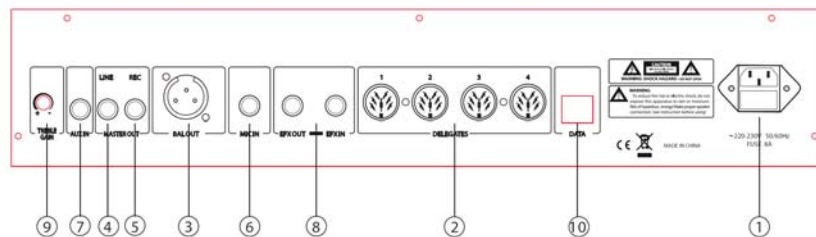
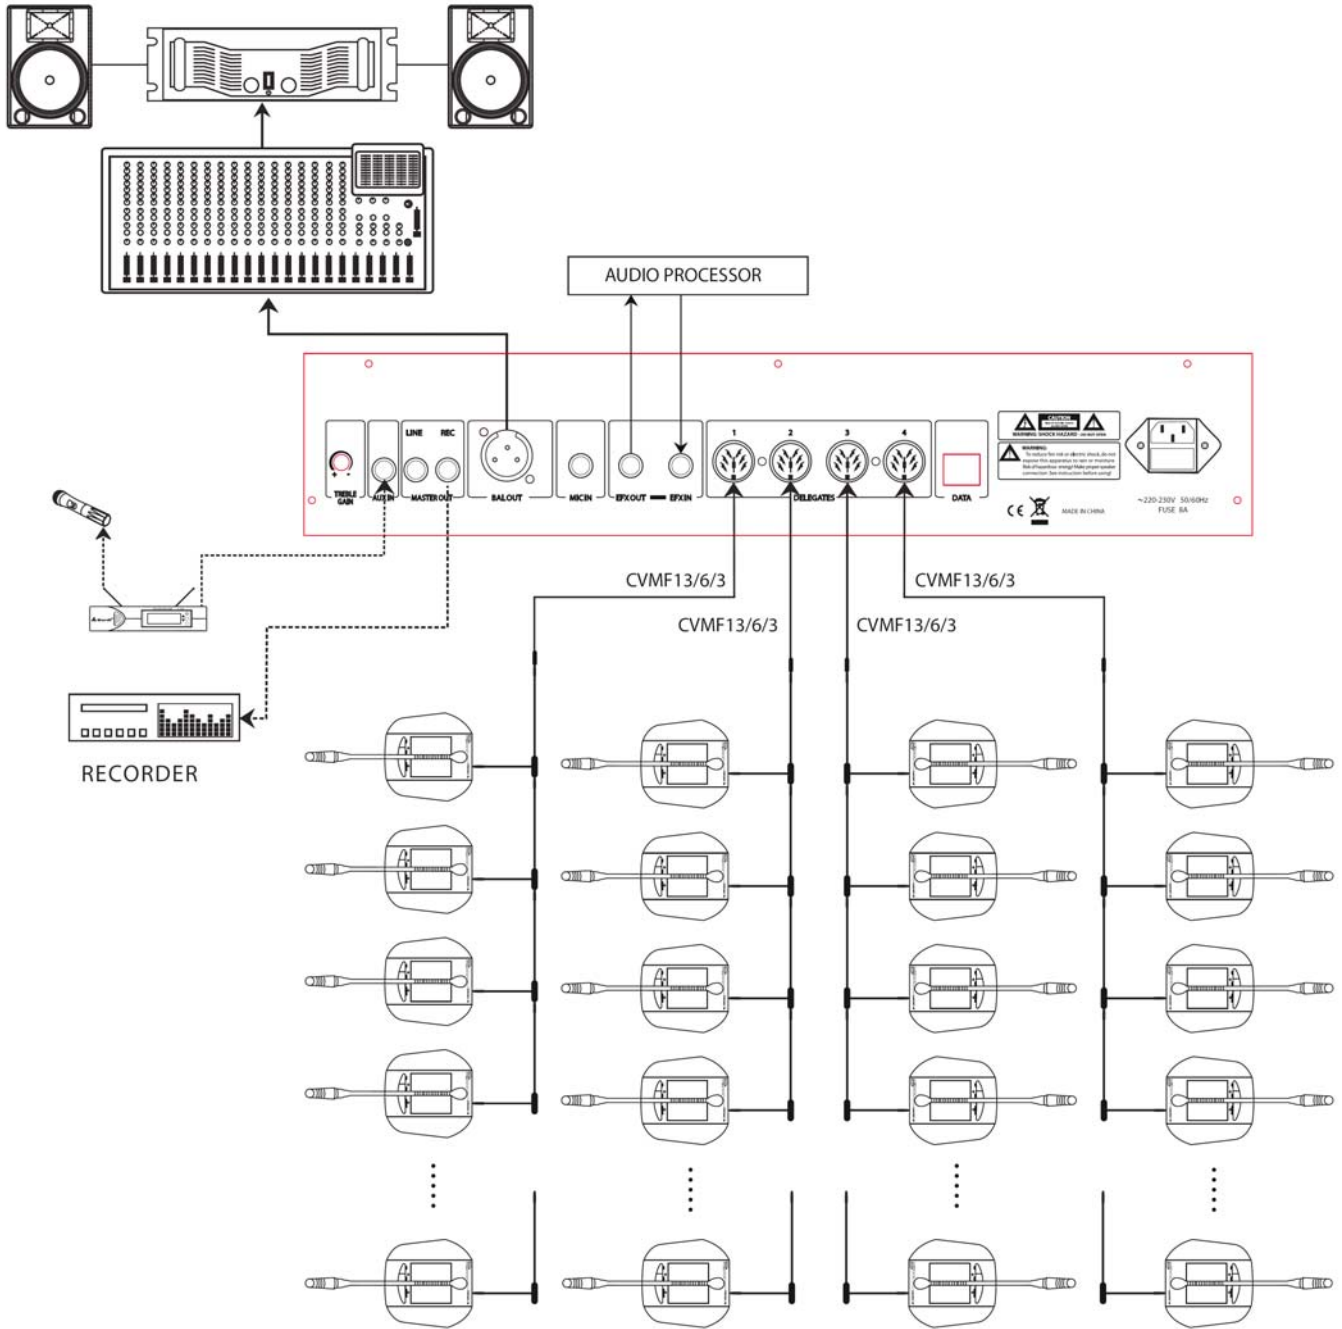

fig.2
fig.5
Sets the audio level of any dynamic microphone connected to MIC IN (fig. 2 – ref. 6)
Sets the audio level of any audio source (wireless microphone, CD player, etc.) connected to AUX IN (figure 2 – ref. 7)
Sets the level on MASTER OUT (figure 2 ref. 4, 5)
Connect the unit to 230 V AC 50/60 Hz mains (117 V AC 50/60 Hz for 117 V version). Use the connection cables provided to connect the daisy-chained stations to the 4 **BASE INPUTS** (figure 2, ref. 2) as shown in **figure 5**, paying attention not to connect more than 30 stations to each line and no more than 64 stations altogether.